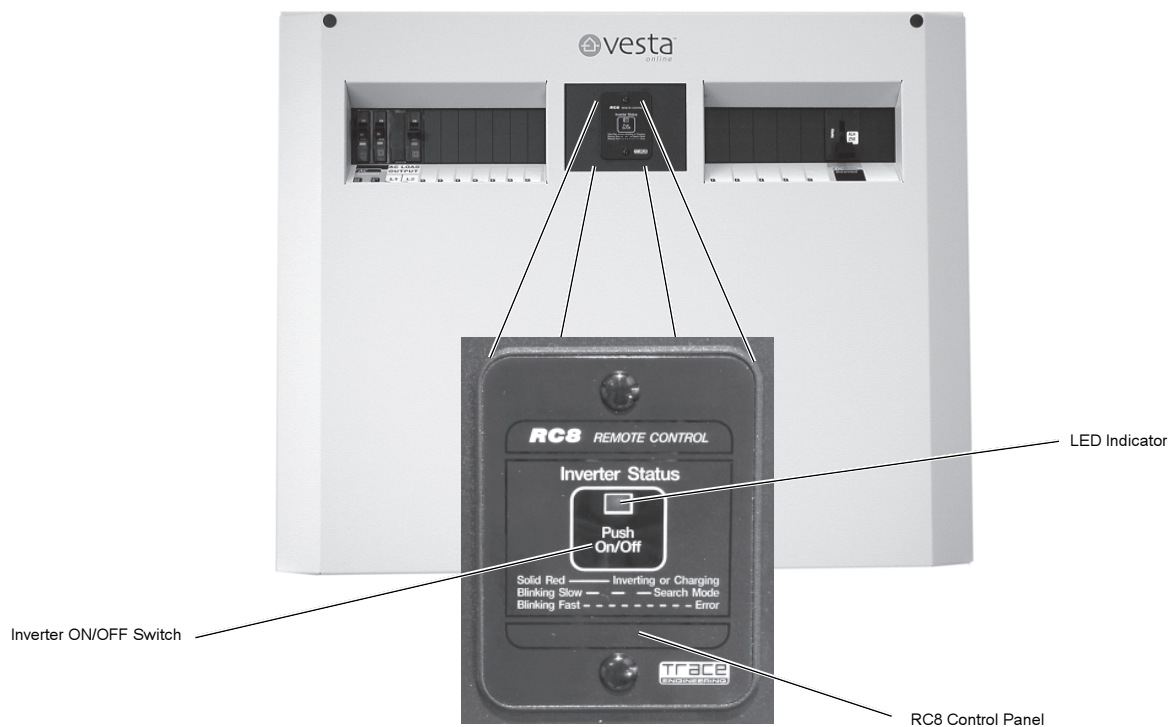

Figure 3-5
8. Press the ON/OFF momentary switch located on the Vesta control panel to ON (see Figure 3-5). This starts the Vesta power module's inverter. The front panel switch indicator LED should be ON.
9. Switch the Vesta AC LINE OUT (1) and AC LOAD OUT (3b) breakers to ON. 120/240 VAC output power is now being provided by the inverter. Verify the Power Module is providing 120/240 VAC to the load circuits using an true rms AC voltmeter or 100 W load (such as a lamp).
11. Switch the Vesta AC IN breaker (2) to ON. This supplies AC utility power to the inverter, utility pass-through to the loads and starts battery charging.